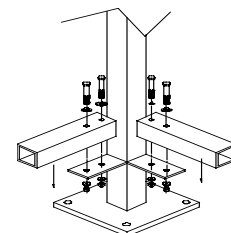

Figure: 5
- e. If you have lower cross beams on your enclosure, they attach to flanges near the bottom of the column(s) and are designed to fit between columns. (See figure 5)